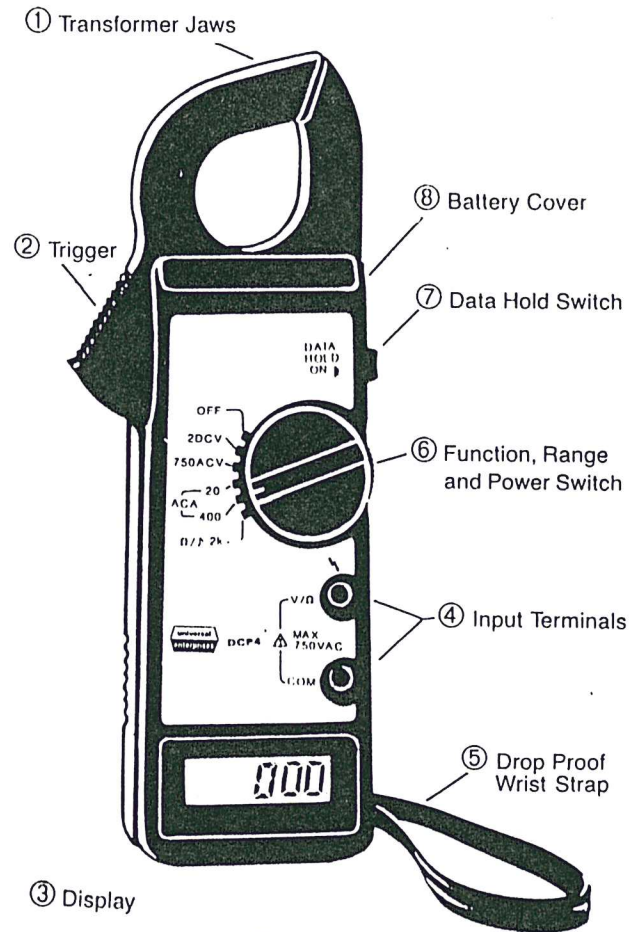

Fig. 1
4. Slide the battery cover (10) Fig. 1, away from the instrument and remove the battery.